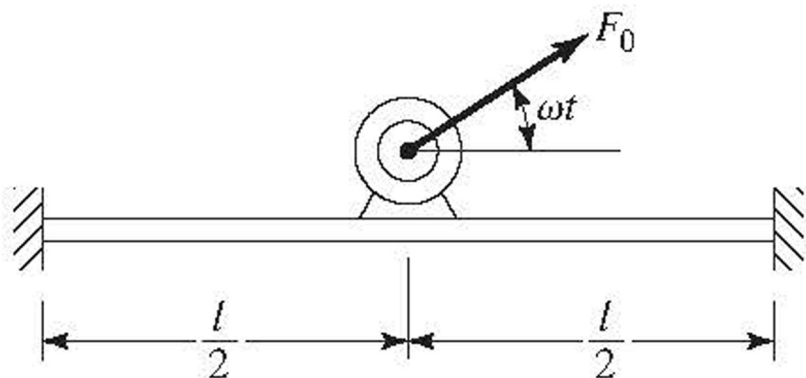

FIGURE 3.63
- 3.66** A fixed-fixed steel beam, of length 5 m, width 0.5 m, and thickness 0.1 m, carries an electric motor of mass 75 kg and speed 1200 rpm at its mid-span, as shown in Fig. 3.63. A rotating force of magnitude  $F_0 = 5000$  N is developed due to the unbalance in the rotor of the motor. Find the amplitude of steady-state vibrations by disregarding the mass of the beam. What will be the amplitude if the mass of the beam is considered?